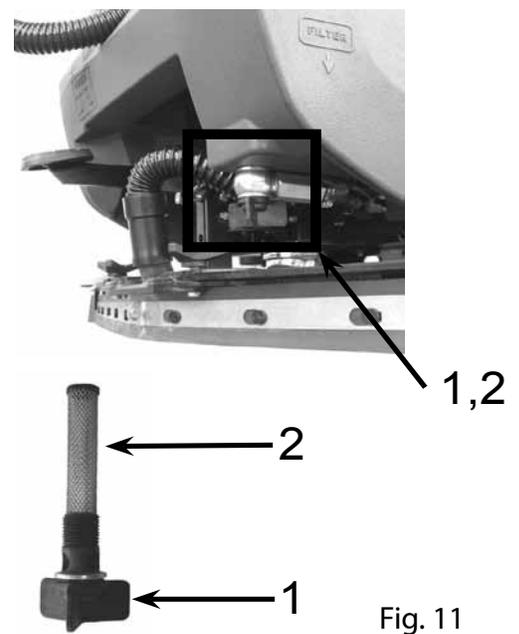

Fig. 11
- Unscrew the screw located below the bottom tank (fig. 11, ref. 1);
- Unscrew the detergent filter (fig. 11, ref. 2);
The tap is dirty or faulty.	Clean or replace the tap by unscrewing the screw (ref. 1 fig. 11).